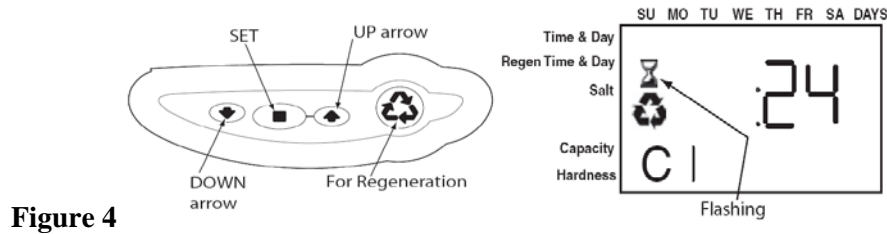

Figure 4
1. Push the FOR REGENERATION button (**Figure 4**) on the controller down for 5 seconds. This will initiate a manual regeneration. You will notice a flashing hour glass during regeneration.